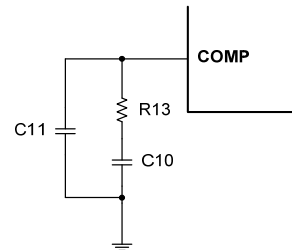

Figure 12: COMP External Compensation
The COMP external compensation sets one pole F_{P1} and one zero F_{Z1} (see Figure 12). These are determined by Equation (26) and Equation (27):